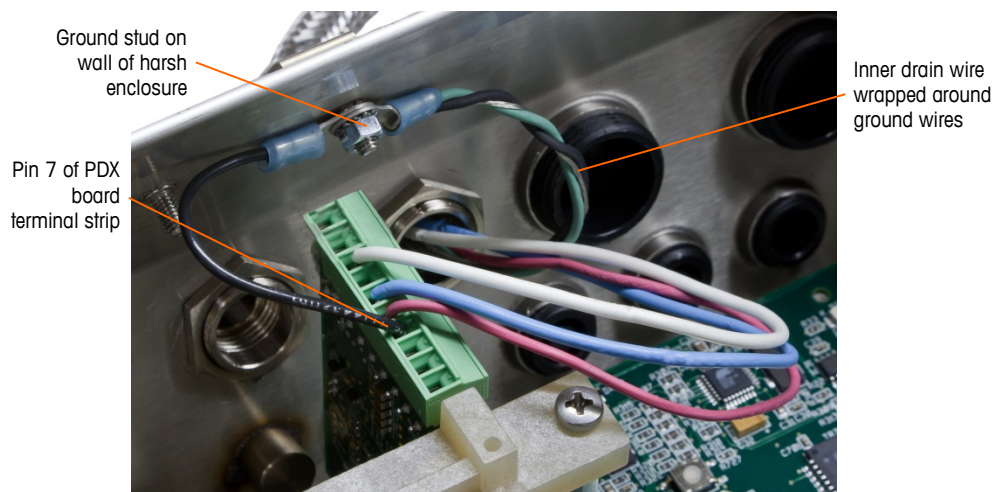

Figure 2-66: POWERCELL PDX Home Run Power Ground Connection, Harsh
- b. Next, twist the home run cable's inner drain wire together with the black and green ground wires and make a connection to the same ground stud using another ring terminal as shown in Figure 2-66.